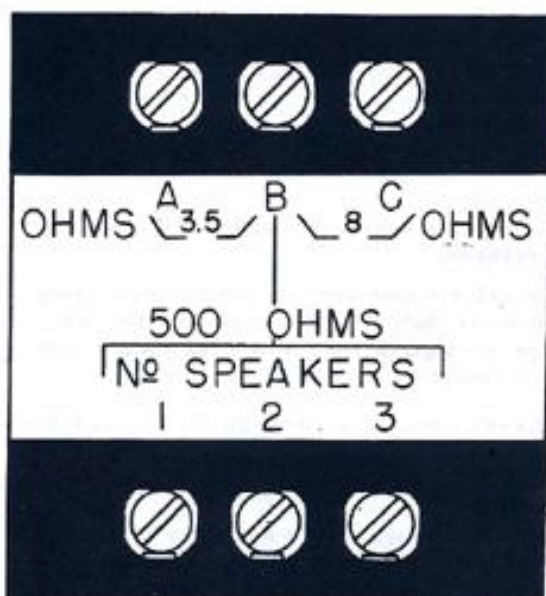

Figure 29-Model 506 Amplifier Terminal Board
The center terminal (B) in the upper row of terminals, located at the left end of the sloping front panel of the amplifier, is the common connection of the auxiliary speaker circuit (see figure 29). One wire of every auxiliary speaker line must always be connected to this terminal.